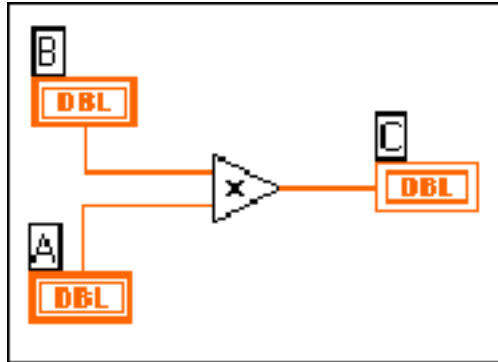
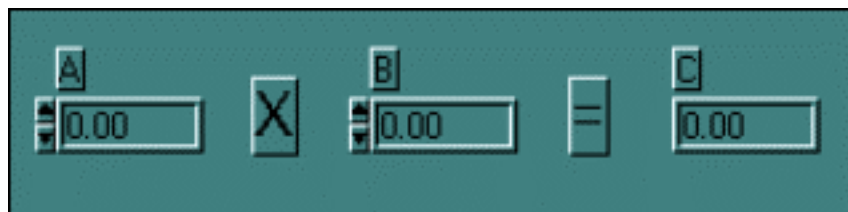

Figure 2. Program for Multiplying Two Numbers and Displaying the Result
Figure 3. Front Panel for a Two-Number Multiplication Program
LabVIEW programming consists of drawing pictures that specify data dependencies. The LabVIEW programming environment includes a large set of blocks to specify operations and a Wiring tool to connect them together. As an example, Figure 2 shows the operation of multiplying two numbers and displaying the result.
A LabVIEW program, called a virtual instrument (VI), is a two-window system. The code is in one window and the user interface (inputs and outputs) appears in a separate window. The program window is the block diagram window, and the user inputs and outputs are in the front panel window. Figure 2 shows a sample program that would appear in the block diagram window. The numbers are entered into the computer and displayed in the front panel window shown in Figure 3. The two boxes on the left (labeled **A** and **B**) are controls, and the box on the right (labeled **C**) is the output or indicator. (The **X** and **=** are only displays showing the operation of the VI and not inputs or outputs.) The three boxes are associated with like labeled boxes in the diagram window shown in Figure 2.